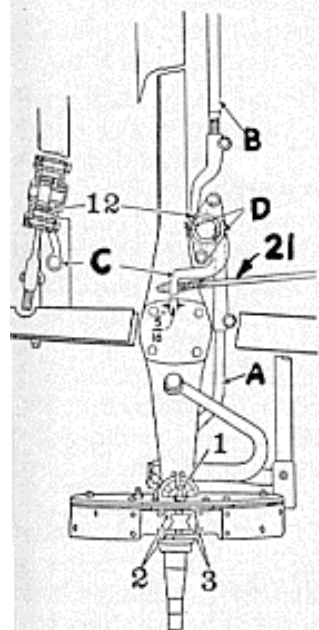

Fig. 3 (left)—Top view front equalizer and rods
3. Adjust front brakes by turning main adjusting screw (1 Fig. 3) in counter clockwise direction until brake almost locks, then back off until wheel spins freely. Do the same to other front brake.
8. Front Equalizer Lever—Front equalizer lever (C) should stand  $\frac{5}{16}$  in. forward of front axle center line as shown. To get this position adjust the right and left cross operating rods (A and B) by turning their clevises. See Fig. 3.